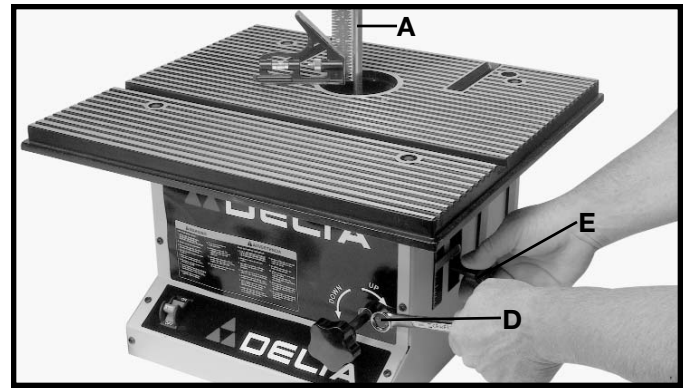

Fig. 24
5. Loosen adjustment bolt (D) Fig. 24, and corresponding bolt at the rear of the machine (not shown).
6. Carefully move the spindle height lock knob (E) Fig. 24, up or down until the metal rod (A) is 90 degrees to the table surface. Then tighten adjustment bolts (D) which were loosened in **STEP 5**.